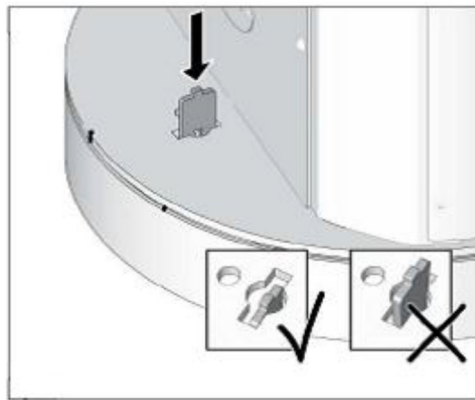

Figure 6: Insert Second Rotation Locking Stopper
5. Rotate the stove back to the zero position. Rotate the stove in the opposite direction as Step 4 slightly. Slide the second Locking Stopper down into place (see fig. 6).
6. Insert the two rotation lock tabs, and line up the mounting screw holes (fig. 6).